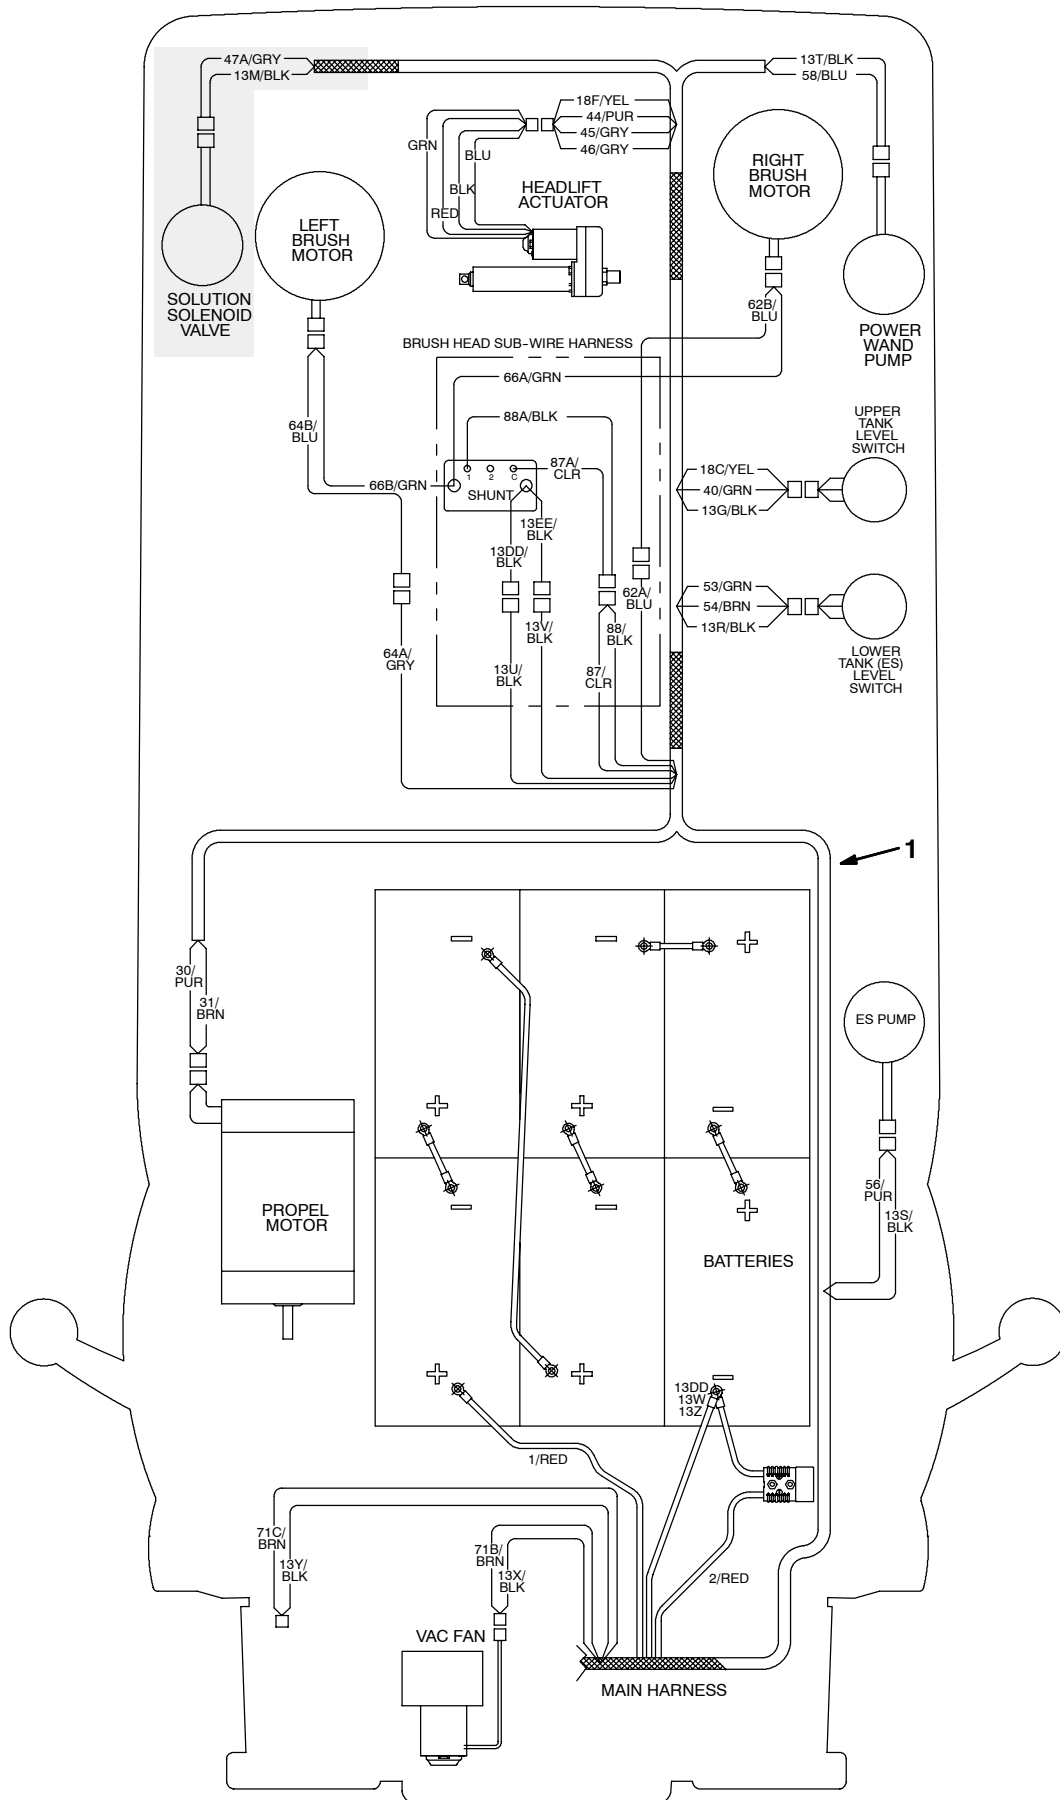

FIG. 3 - Wire Harness Group, 5700
12. Connect the machine harness 47A/GRY and 13M/BLK to the new solenoid valve (2). Secure the wire harness to the solenoid valve (2) with a plastic wire tie. (Refer to FIG. 3 and 4)